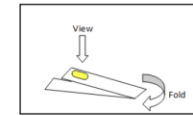

Figure 2
5. Remove strip from water, do not shake. Wait a full 30 seconds. While waiting, fold the white plastic handle of the test strip under the aperture (as in Figure 2 below) so that it provides a consistent viewing background.